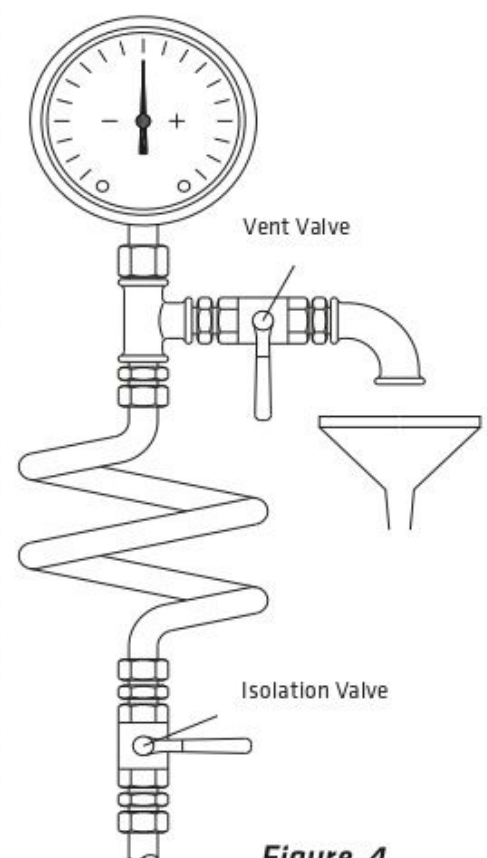

Figure 4
- Pressure and vacuum gauges must be properly anchored and connected at the measuring points located on the pump flanges by means of or on the pipes close to the flanges approximately 8 mm diameter tubing with pig tail configuration to lessen pressure fluctuation. For safety purposes isolating and vent valves should be fitted before the gauges (**Figure 4**).